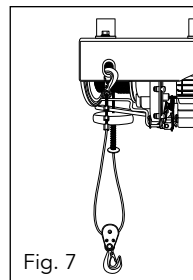

Fig. 7
5. The load is now raised by two steel cables, which means that the cable hoist can lift twice its rated load (Fig. 7).